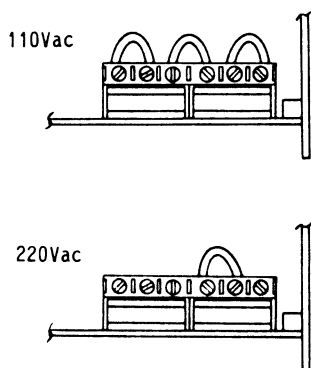

Figure 2.1
The selection of 110 or 220 volt nominal mains voltage is made by changing connections on terminal strip A10A2TB1 on the power supply assembly A10. To change the mains voltage setting proceed as follows: refer to Figure 2.1 and 2.5)
- d. Change connections on terminal strip A10A2TB1 to 110V or 220V as appropriate in accordance with Figure 2.1. The terminal strip is situated in the power supply assembly behind the rear panel.